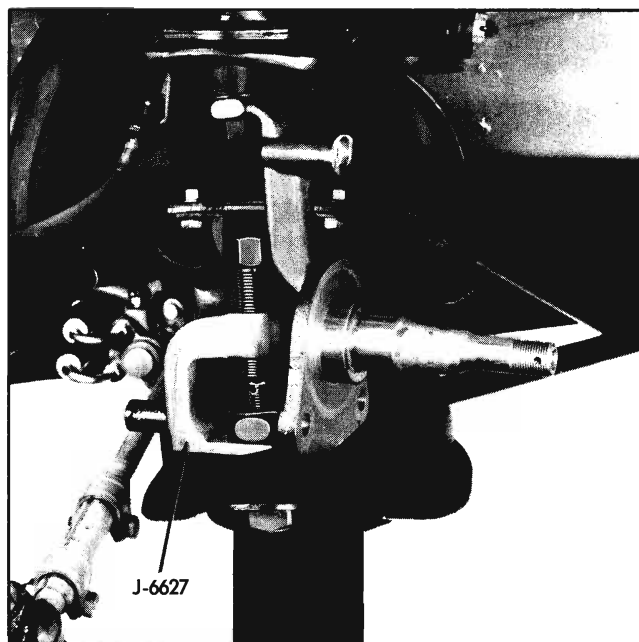

Fig. 3-17 Removing Lower Ball Stud
4. Place stand under control arm (Fig. 3-17). Take up slightly on spring compression.
5. Remove lower ball stud from steering knuckle with J-6627 (Fig. 3-17).